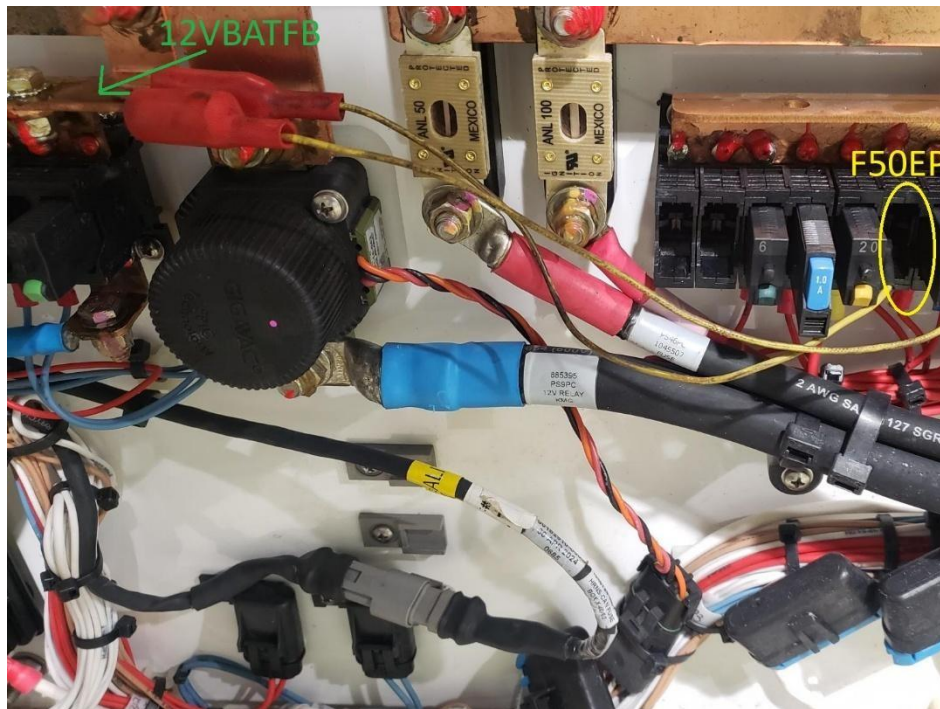

Figure 1: Connect F50EP to 12 V bus bar
7. Connect alligator clip ends of the jumper used above to 12 V bus bar in LV junction box (12VBATFB). See Figure 1 below.